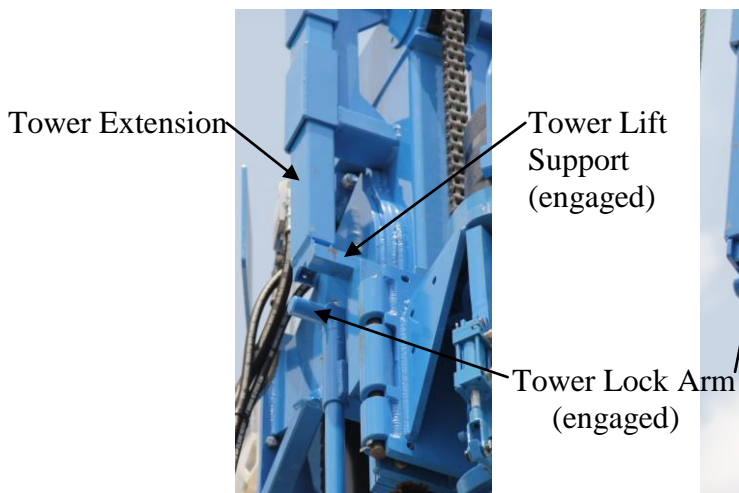
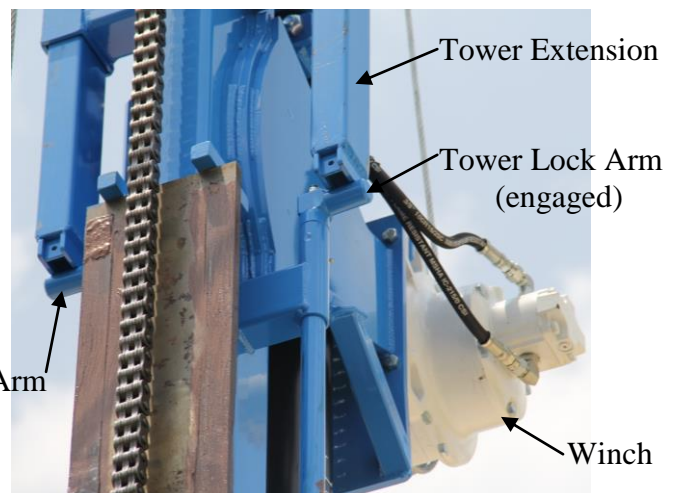
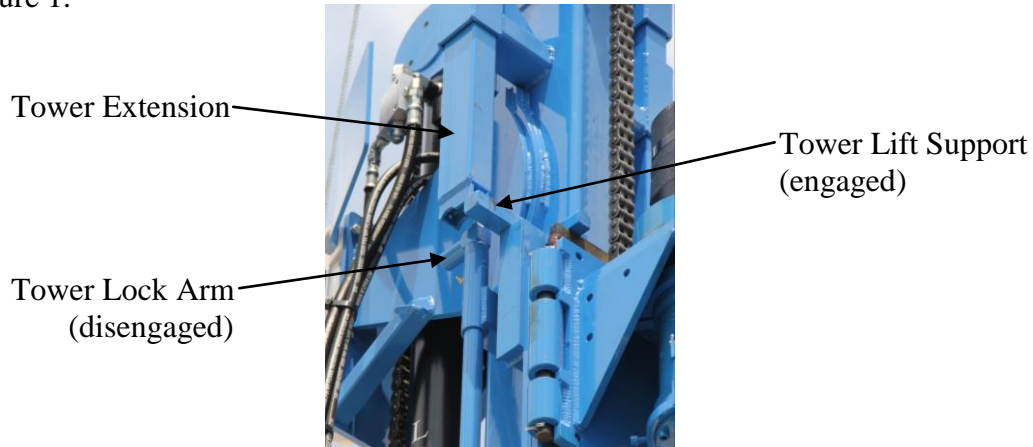

Figure 8
Figure 9
Figure 10
### **Extending Mast Tower Extension:** (Refer to figure 8 and figure 9)
**Retracting Mast Tower Extension:** (Refer to figure 8 and figure 10)
- Pivot tower lock arms 90° away from mast plate. See figure 10.